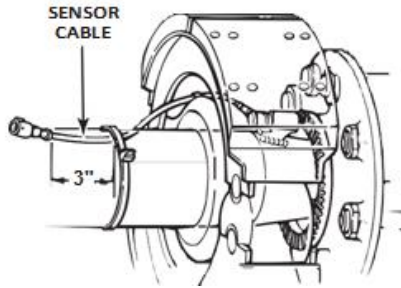

Figure 12: Sensor Cable Routing
3. Route the sensor cable toward the brake chamber, over the brake spider, and behind the axle. Secure the cable to the axle between the brake spider and the suspension brackets. Continue to route the sensor cable behind the spring seats. Secure the cable behind the spring seats. Secure the cable to the axle 3 inches from the molded sensor plug. See figure 12.